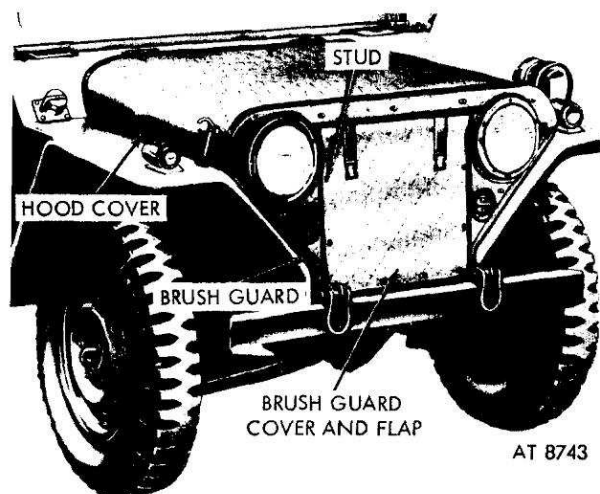

Figure 4-3. Brush guard cover.
e. Brush Guard Cover and Flap (Fig. 4-3). A cover on the radiator brush guard controls the flow of cold air through the radiator and protects the engine from windblown snow. A flap in the cover can be opened to admit air for engine cooling. When not installed on the brush guard, the cover is stowed behind the
j. Brush Guard Cover. The cover (fig. 4-3) is mounted on the radiator brush guard with